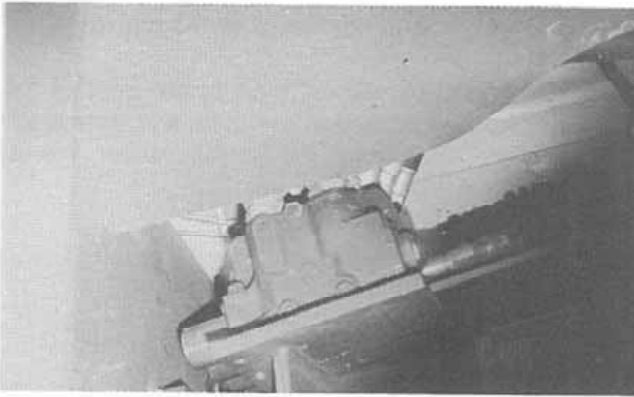

Figure 11:
13. Inside the cab, be sure the right hand control console is fully tilted upward. Under the cab, move the hydraulic control valve to the extreme left and as far upward as possible (Fig. 11), and secure with a wire routed through the cab handrail.